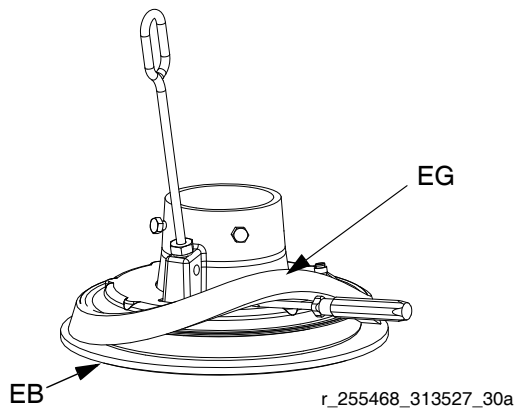

FIG. 16: Sliding spacer
2. By hand, angle the spacer (EG) and work it off the plate, pulling it down over the flange and bottom wipers (EB). See FIG. 16.
3. Save the spacer (EG), as it is required for other applications.
1. Ensure the large diameter of the spacer (EG) is facing **down**. Work the spacer (EG) up over the platen by hand completely above the flange of the platen. See FIG. 16.